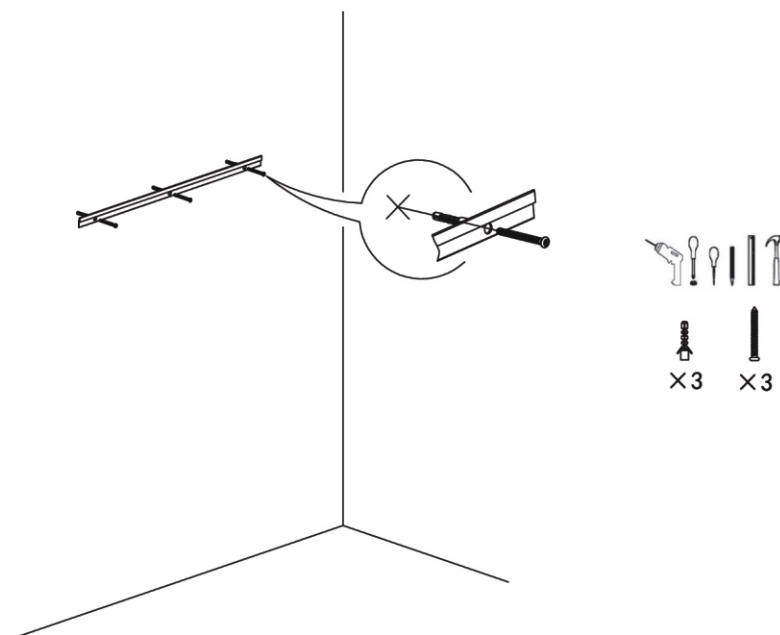

Fig. 2
- 1.4 Knock the expansion plugs into the holes in the wall with a hammer, and then tighten the screws with a screwdriver to fix the bar, and calibrate the level with a spirit level (Fig. 2).